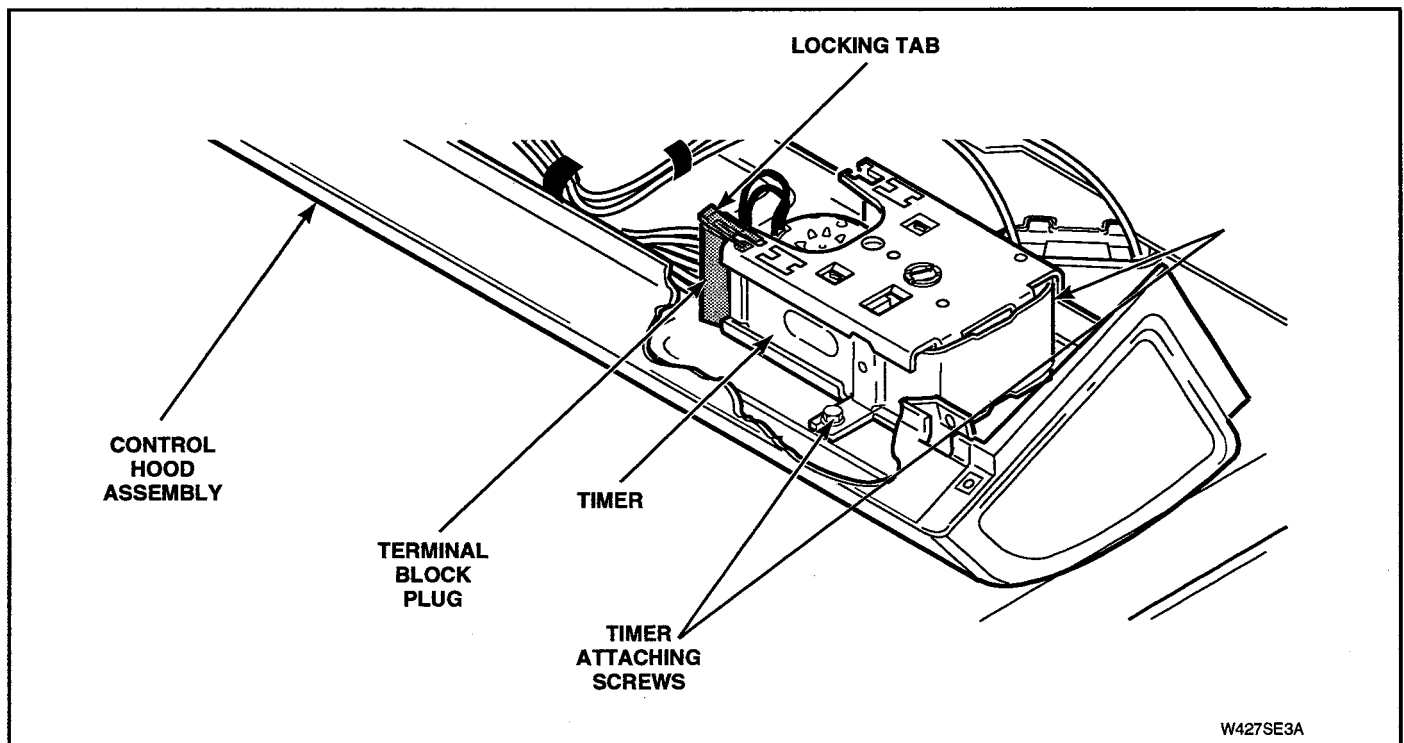

Figure 5-4
- Remove two screws holding timer to control hood mounting plate. See Figure 5-4.
- e. Disengage wire harness terminal block plug(s) from timer by pressing in on movable locking tabs (located on each side of terminal block plug) and pulling away from timer. See Figure 5-4.